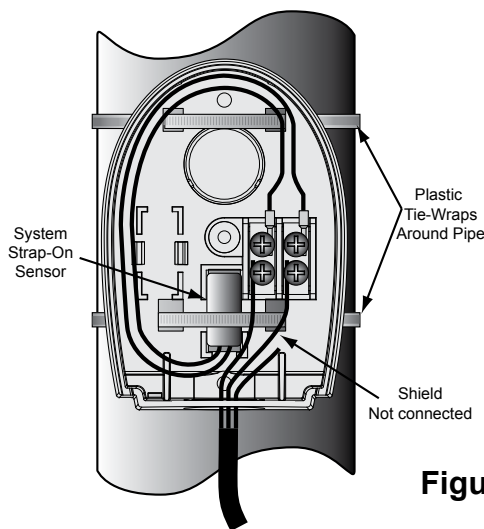

Figure 3
- Use the provided tie-wraps to hold the sensor and base in place while tying it to the pipe as shown in Figure 3.
- Connect the sensor wires to the upper terminals as show in Figure 3.